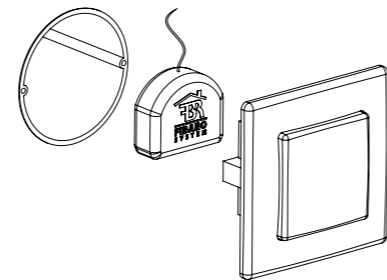

Fig.3 Installation of Fibaro Roller Shutter in wall switch box.
- Arrange the antenna (tips presented below Fig. 3)